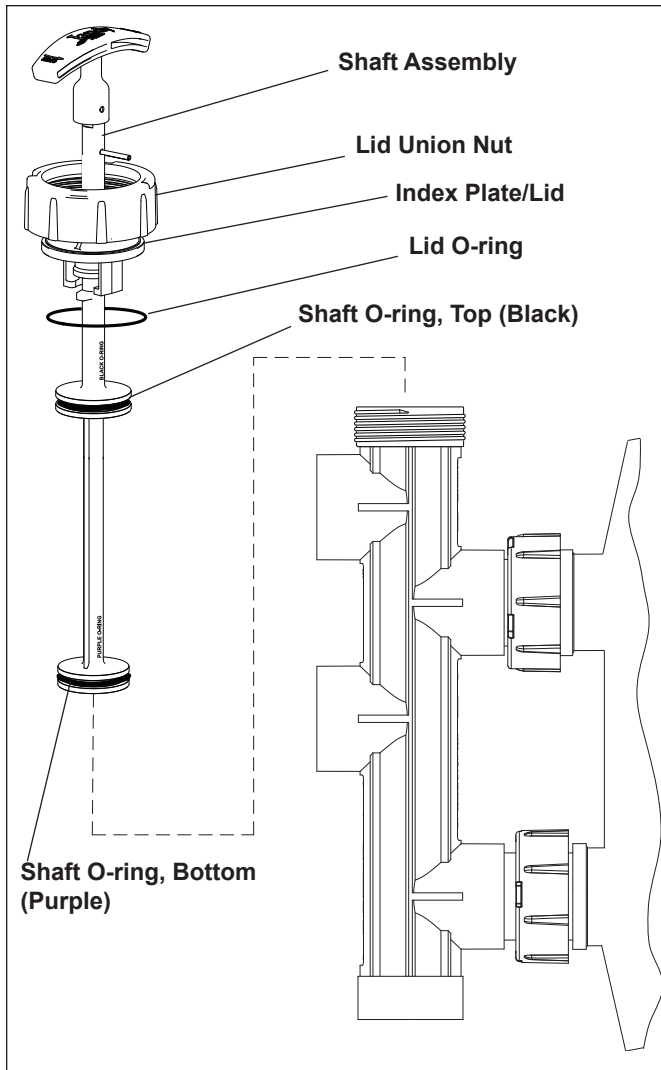

Figure 9. Remove Slide Valve Shaft Assembly
4. Grab the Slide Valve handle and pull the shaft assembly out of the valve. See Figure 9.